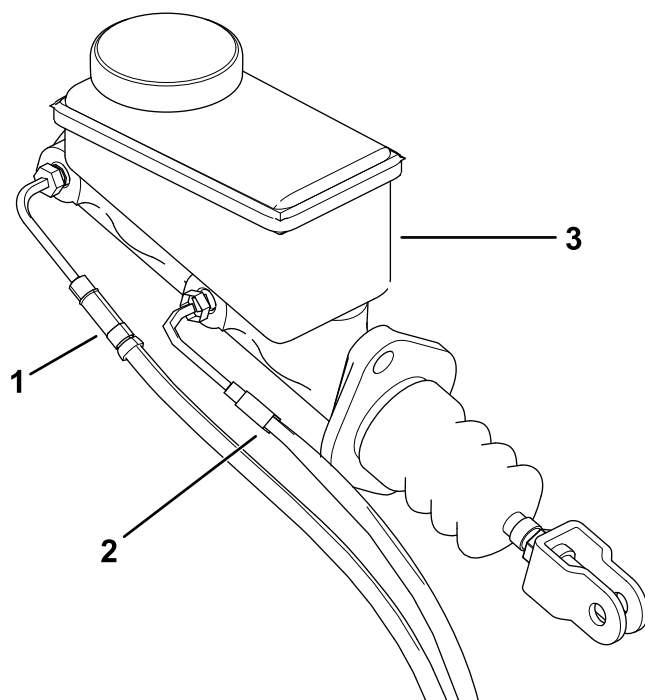

Figure 5
5. Remove the front and rear brake line from the master cylinder (Figure 5).
3. Install the front and rear brake line to the master cylinder (Figure 5).